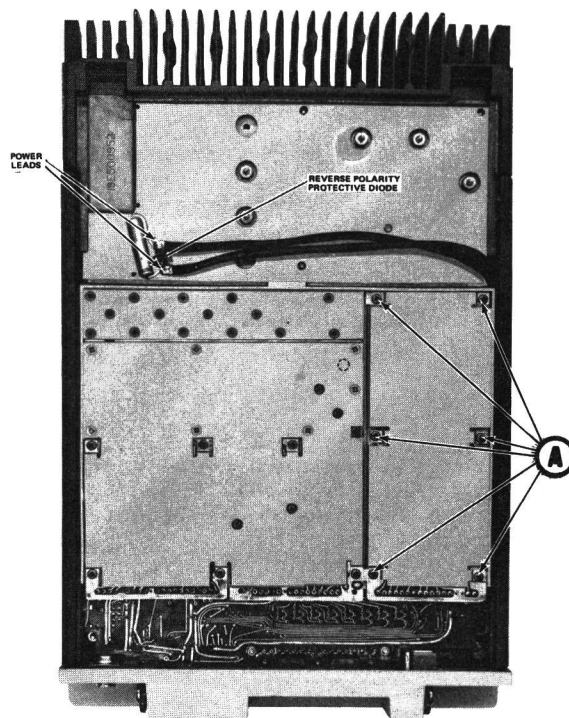

Figure 3 - Disassembly Procedure Bottom View
3. To gain access to the bottom of the exciter board, remove the six screws (A) holding the exciter board and its bottom cover to the module mounting frame, and remove the bottom cover (see Figure 3).